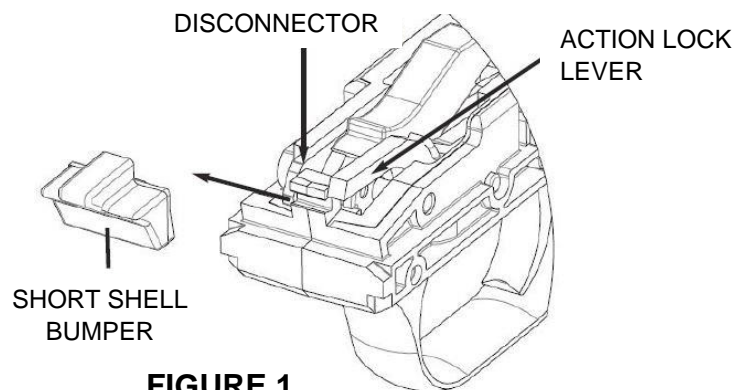

FIGURE 1
2. Once the trigger housing assembly has been removed, depress the disconnecter and slide the short shell bumper away from the action lock lever as shown in figure 1. No further disassembly is required.